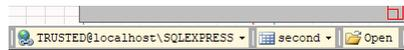

Figure 5.15 The Open button at the bottom right of CT Viewer 2.
1. Open the database containing the desired trace by clicking the *Open* button in the bottom right of CT Viewer 2 (Figure 5.15) or by selecting *File* → *Open Current Database* from the menu bar. See *Working With SQL* for instructions on setting up a connection to an SQL database.